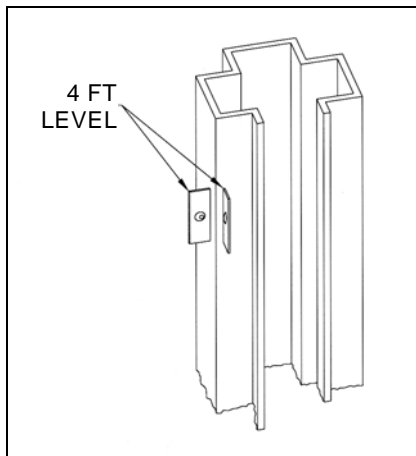

Figure 7. Post leveling
6. Use a 4' level, to level the posts. Refer to Figure 7.